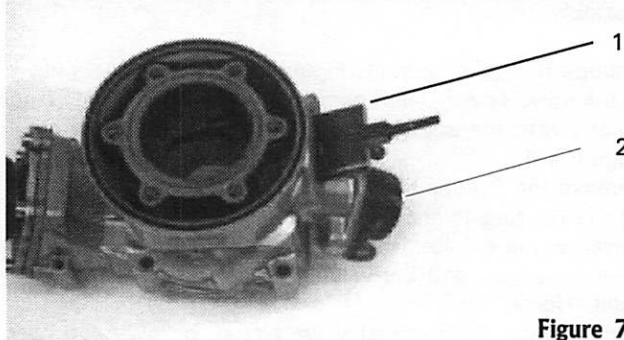

Figure 72
5. Remove the gasket and the exhaust valve assembly (1, Figure 72).
9. Because the exhaust valve assembly is dependent on exhaust gas pressure, a leaking exhaust socket (2, Figure 72) will reduce its efficiency and operation. Check the exhaust socket for signs of leakage, cracks or other damage. If necessary, remove the exhaust socket and replace its gasket and/or the exhaust socket. Note the following:
2. Install the exhaust valve (1, Figure 72) into the cylinder port with its tapered side facing up.